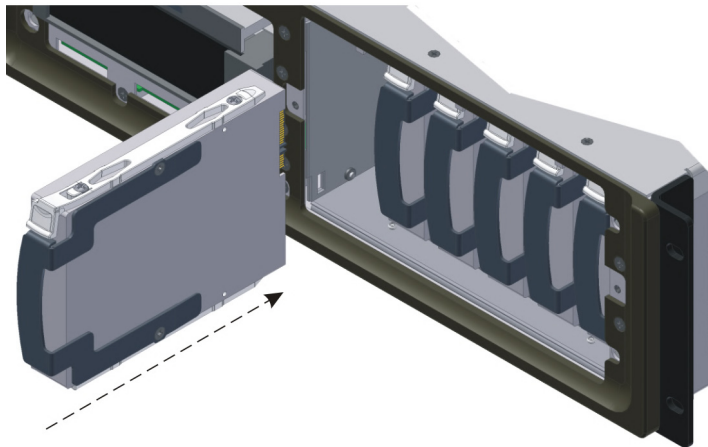

Figure 4-17 Inserting the Replacement Drive in the DSL100
5. Be sure that no show is running, then grasp the replacement drive's finger tab, and firmly but gently slide the drive into its slot (see Figure 4-17) until you feel resistance, which indicates that the drive is seated in its socket.